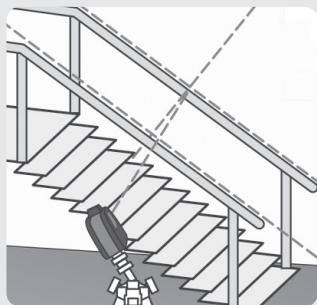

Fig. 5
When the plumb line of the device is locked, the device can be tilted to an angle outside the self-levelling range for the purpose of projecting a laser line in situations where a certain tilt angle needs to be maintained as shown in the example in fig. 5.
1. Place the device on a straight rigid surface or screw it on to the thread of a tripod (fig. 5) (the tripod is not included) or the supplied magnetic surface attachment holder (fig. 1) and point the laser beam window at the measured surface.
4. Set the device to the desired position based on the required tilt angle of the laser line. In the event that it is necessary to tilt the device, use it exclusively on a tripod (fig. 5) to prevent the device from falling.